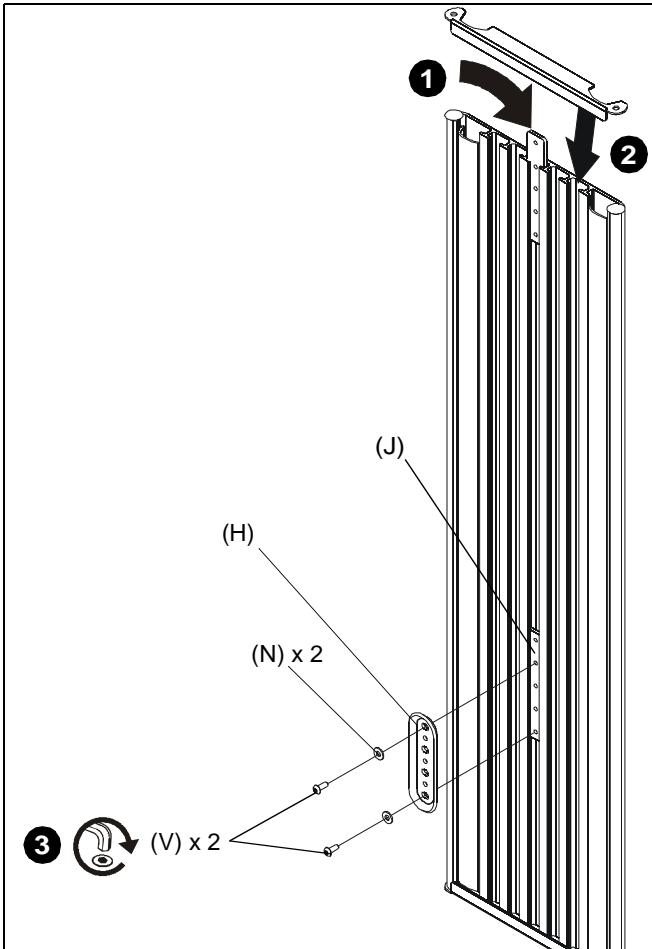

Figure 40
- Remove side cover to slide locking plate brackets (J) into wall track accessory (A) at the desired mounting location. (See Figure 40)
- Reinstall side cover to wall track accessory after all locking plate brackets have been inserted. (See Figure 40)
- Use 1/8" hex key (BB) to install #10 button head cap screws (V) through #10 washers (N) and wall plate (H) into center holes of locking plate brackets (J). (See Figure 40)
NOTE: Wall brackets must be secured by installing screws through the top and bottom holes of the wall plate (H). (See Figure 40)
- Ensure wall plate (H) is vertical, then tighten screws (V).